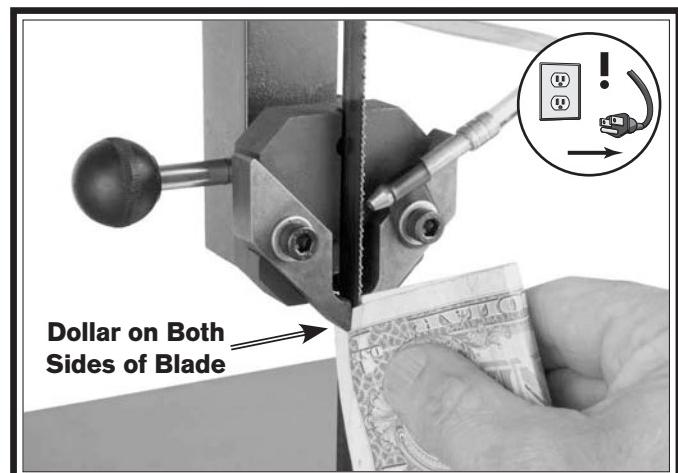

Figure 22. Using a dollar bill to set blade guide spacing (blade guide cover removed for clarity).
- Fold a crisp dollar bill in half and place it over the blade (between the blade guides and the blade), as shown in **Figure 22**.